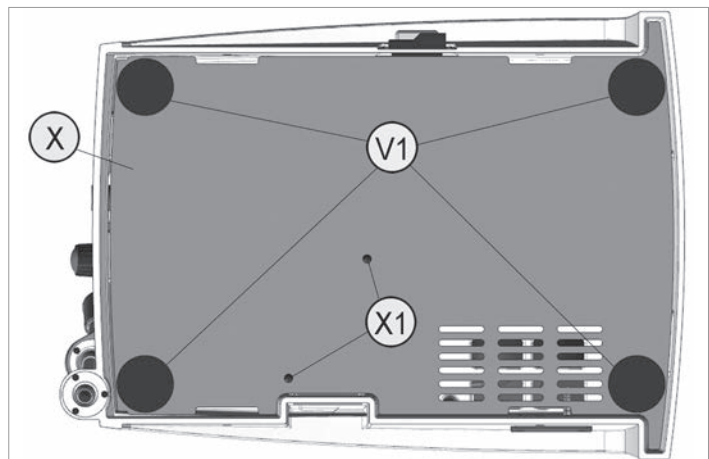

Fig.65
- 6) Put the bottom cover (X) in place and secure with the screws (X1); screw in the 4 feet (V1) (Fig.65).
- 7) Place the bottom cover (X) in position, secure with the screws (X1) and screw in the 4 feet (V1) (Fig.65).
- 8) Place the machine upright on the worktop and insert the swarf tray (V).
- 6) Place the bottom cover (X) in position, secure with the screws (X1) and screw in the 4 feet (V1) (Fig.65).
- 7) Place the machine upright on the worktop and insert the swarf tray (V).
- 5) Place the bottom cover (X) in position, secure with the screws (X1) and screw in the 4 feet (V1) (Fig.65).
- 6) Place the machine upright on the worktop and insert the swarf tray (V).
- 8) Place the bottom cover (X) in position, secure with the screws (X1) and screw in the 4 feet (V1) (Fig.65).
- 9) Place the machine upright on the worktop and insert the swarf tray (V).